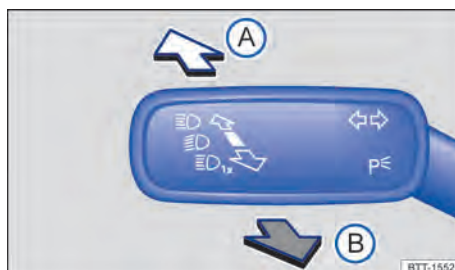

Fig. 89 On the left-hand side of the steering column: direction indicator and high beam lever.
2. Push the lever forwards from the centre position → Fig. 89.
1. Pull the lever back from the centre position → Fig. 89.
1. Pull the lever back from the centre position and hold → Fig. 89.